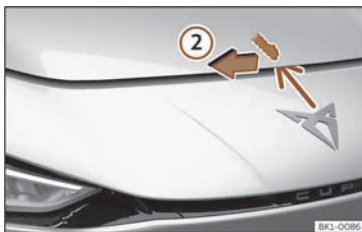

Fig. 156 Lever under the bonnet.
- To lift the bonnet, press towards the left on the lever located under the bonnet, in the centre»» **Fig. 156** ②. The fastening hooks are unlocked.